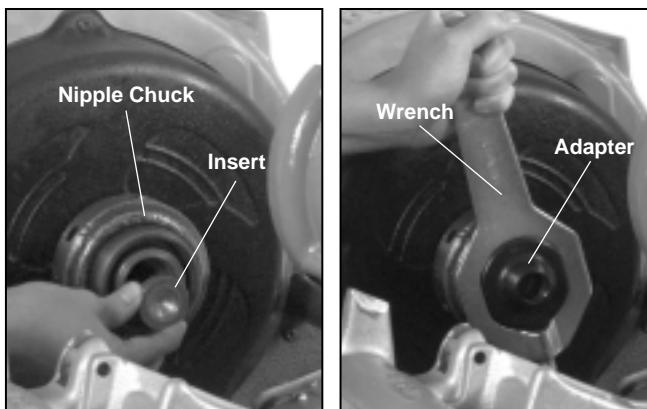

Figure 14 – Installing Nipple Chuck Body and Adapter
(See Figures 14 & 15)
4. Install proper adapter and tighten with wrench. (Figure 14)